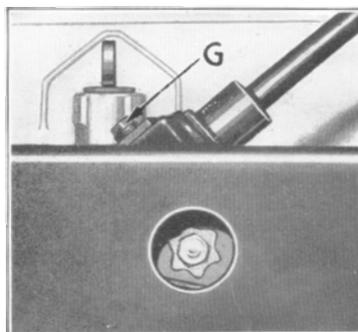

Figure 49
**LUBRICATION** — Every 1,000 miles the oil level in the steering gear housing should be checked by removing plug (G), Fig. 49. If level is low refill to bottom of hole with S.A.E. 90 E.P. gear oil, summer or winter. Be sure plug is securely tightened.